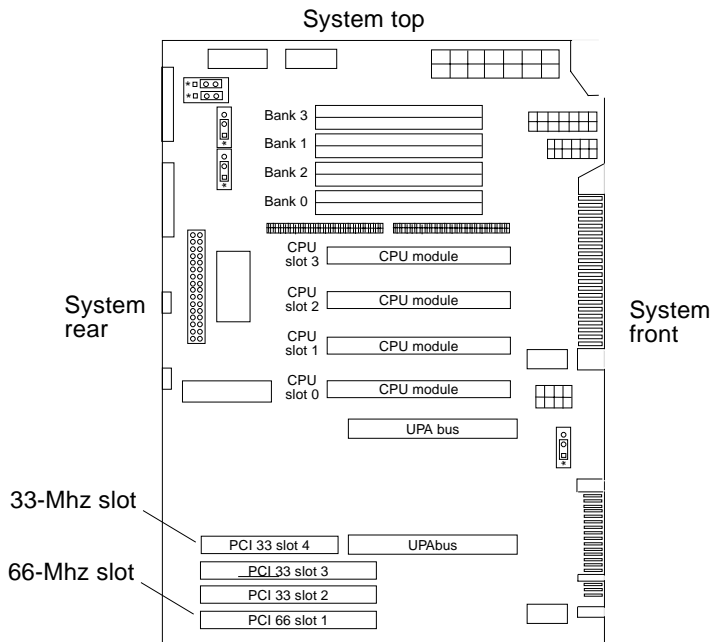

FIGURE 2-3 Ultra 80 PCI 66-Mhz and 33-Mhz Connector Locations
3. **Locate the Ultra 80 PCI 66-Mhz and 33-Mhz connectors (FIGURE 2-3).**